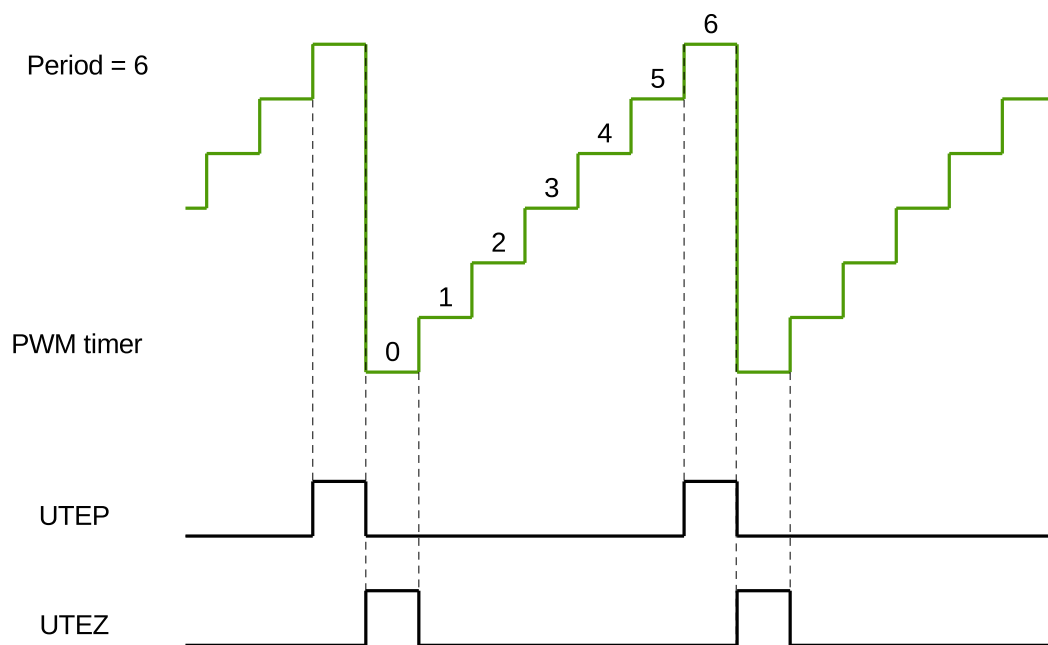

Figure 56.3-9. UTEP and UTEZ Generation in Count-Up Mode
Figures 56.3-9 to 56.3-11 show the timing waveforms of U/DTEP and U/DTEZ.
1. UTEP and UTEZ do not happen simultaneously. When the PWM timer is in Count-Up Mode, UTEP will always happen one cycle earlier than UTEZ, as demonstrated in Figure 56.3-9, so their action on PWM signals will not interrupt each other. When the PWM timer is in Count-Up-Down Mode, UTEP will not occur.